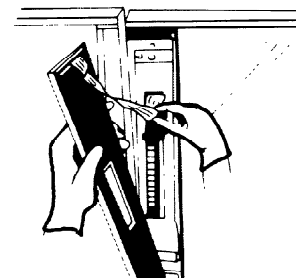

FIGURE 9
2. Insert the electronic strip into the slit by pushing it in with a needle nose plier. See Figure 9.